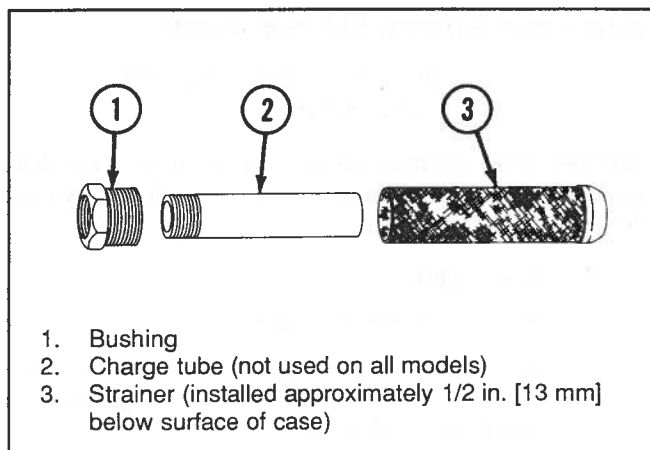

Figure 3-5. Strainer Models
2. Remove the components shown in Figures 3-5 through 3-7, depending on model type, and allow transmission to drain completely.
4. Coat threads of bushing with Perfect Seal. Install components in the order shown in the corresponding model (Figures 3-5 through 3-7). Torque bushing to 25 lb-ft (33.9 N•m).